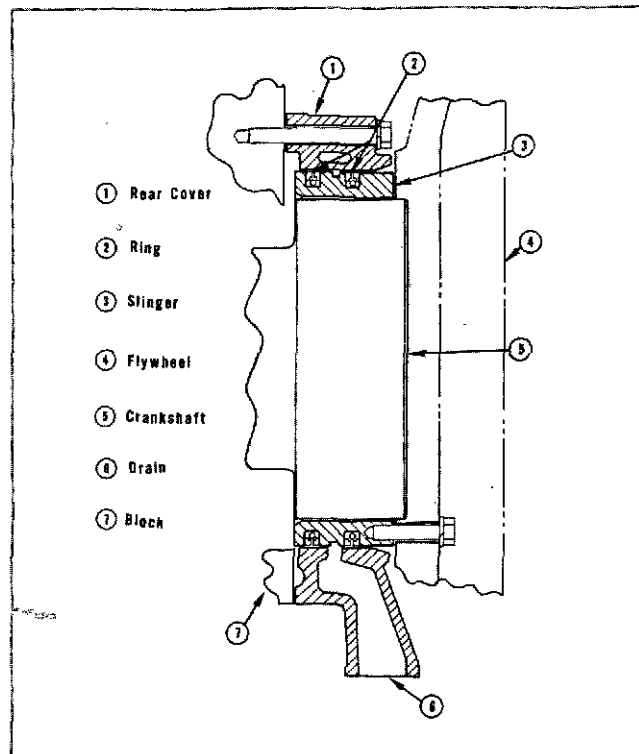

Fig. 14-1-89, V414175. Piston ring type rear cover
Caution: When slinger is removed, loosen from flywheel (4, Fig. 14-1-89) and remove flywheel from crankshaft (5). Remove slinger (3) and rear cover (1) from engine and carefully guide rings (2) and slinger from housing. Failure to remove in this manner will result in broken slinger.